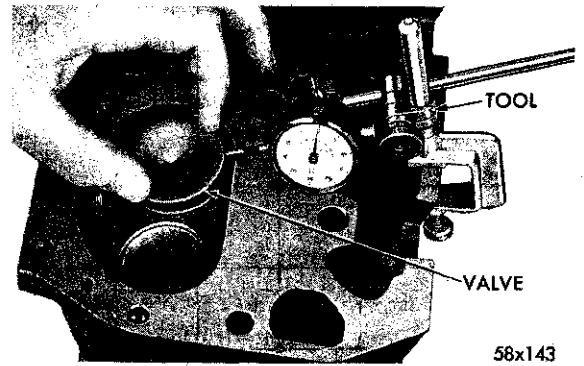

Fig. 10—Measuring Guide Wear Using Tool C-3339
(5) The special sleeve places the valve at the correct height for measuring with a dial indicator. Attach the dial indicator Tool C-3339 to the cylinder head and set it at right angle of the valve stem being measured (Fig. 10).
(6) Move the valve to and from the indicator. The total dial indicator reading should not exceed .010 inch on the intake valves, and .014 inch on the exhaust valves. Ream the guides for new valves with oversize stems if the dial indicator reading is excessive or if the stems are scored or worn excessively.
(7) Service valves with oversize stems are available in .005, .015 and .030 inch oversizes. Reamers to accommodate the oversize valve stem are as follows: Reamer Tool C-3443 (.379 to .380 inch), Reamer Tool C-3430 (.389 to .390 inch), Reamer Tool C-3427 (.404 to .405 inch).
(8) Slowly turn the reamer by hand and clean the guide thoroughly before installing new valves.